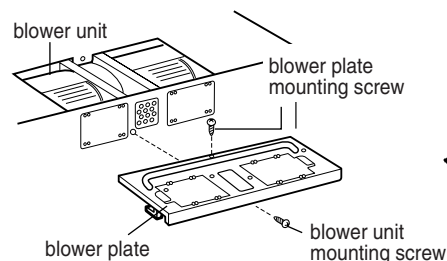

Figure 21
7. Reattach blower plate to microwave oven. Attach with the one blower unit mounting screw and then the one or two blower plate mounting screw(s). See Figure 21.